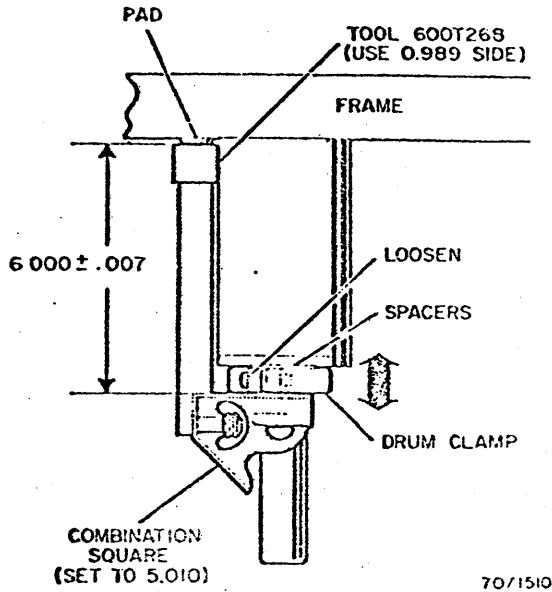

Fig. 3-155. Drum Clamp Adjustment
2. Hold 0.989 side of height gauge tool 600T268 against pad and butt end of combination square scale against height gauge. Outboard side of drum clamp should just touch head of square (Fig. 3-155).